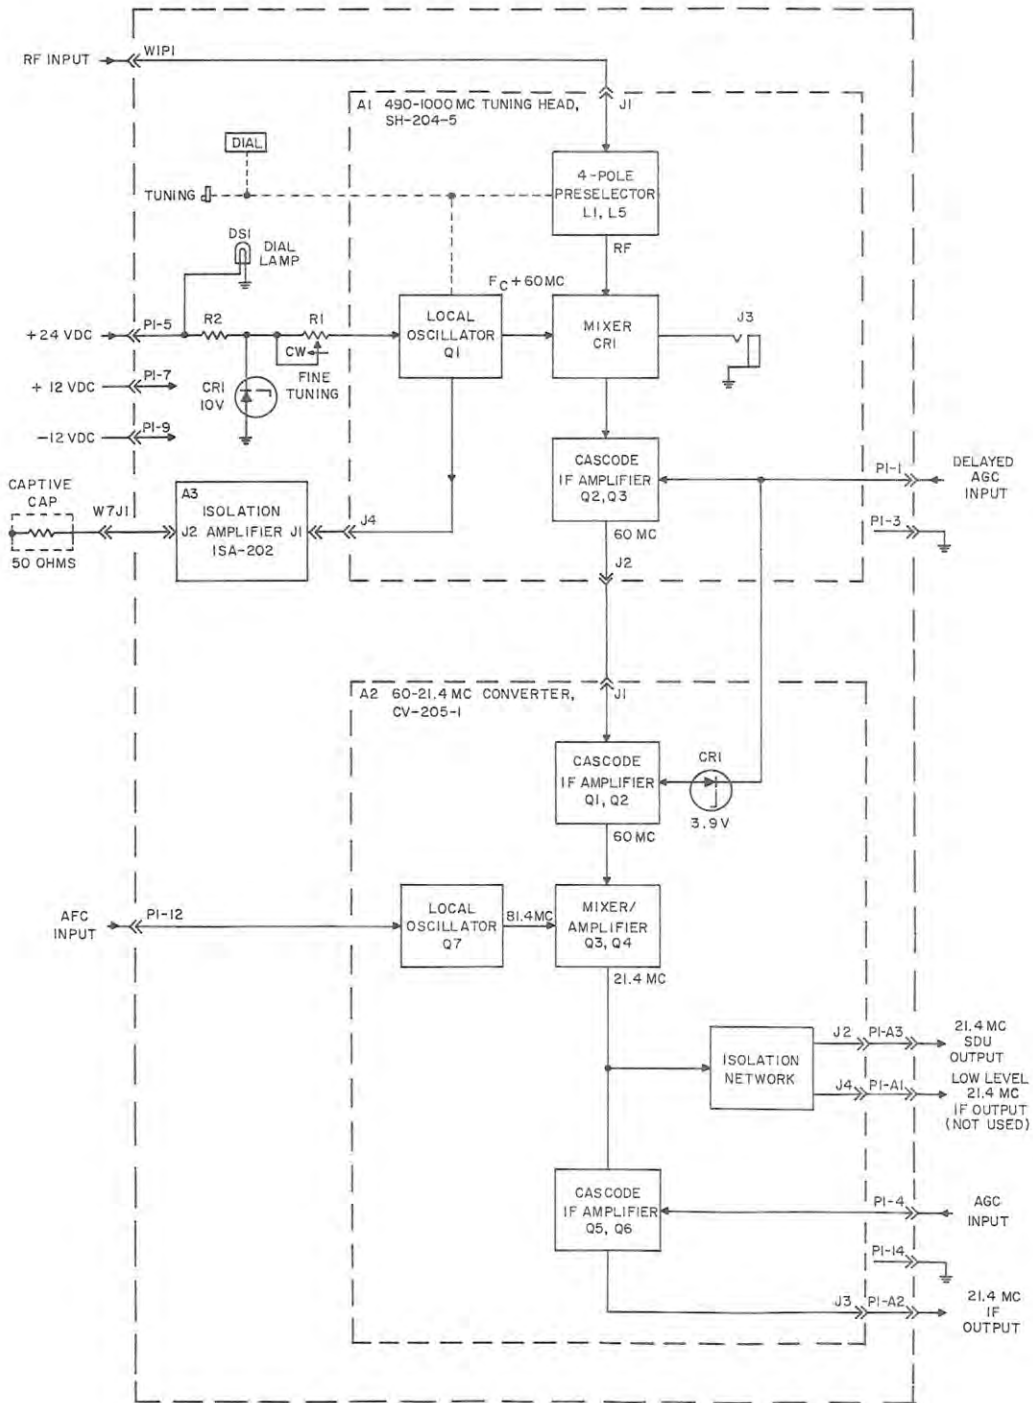

Figure 4-2. 490-1000 Mc Plug-in RF Tuner, TN-520/WRR, Functional Block Diagram.
- (3) Isolation Amplifier, ISA-201-1: Isolation amplifier module A3 couples the local oscillator output of tuning head module A1 to an output connector on the front panel of the RF tuner. This output is used for monitoring purposes. When not in use, this output is terminated in a removable 50-ohm captive cap.
- (4) Miscellaneous Circuits: Dial lamp DS1 is on when power is applied to the RF tuner. Zener diode CR1 regulates the voltage applied to FINE TUNING control R1. The regulated voltage prevents local oscillator frequency variations due to voltage level changes. All power is applied to the RF tuner from the receiver main chassis supply.
B. RF Tuner TN-520/WRR, Figure 4-2